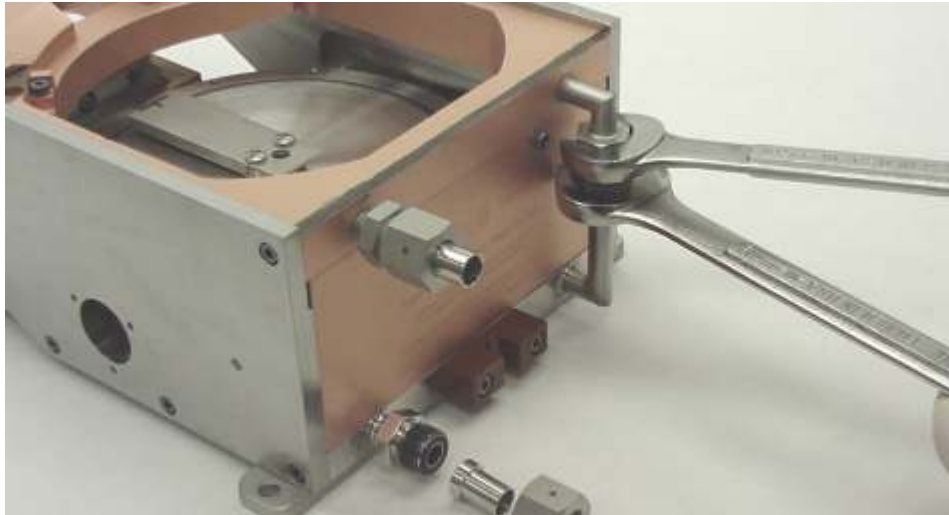

Figure 5-7. Uncoupling the water-crossover tube
- Step 17. Uncouple the tube connecting the gun's upper and lower water circuits. Using appropriate wrenches, hold the nut soldered onto the fitting connected to the coil housing while turning the coupling on the fitting connected to the base plate (see Figure 5-7).